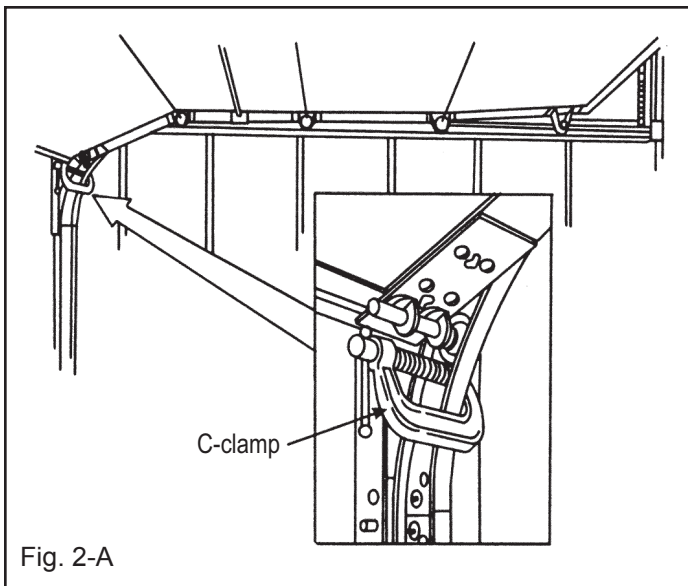

Fig. 2-A
Raise door to full open position. Place C-clamps or locking pliers tightly on both sides of track under door so door is held securely in place (Fig. 2-A). With door fully open, most spring tension has been removed. Keeping C-clamps in place to keep door from falling, detach cable at both ends. Disassemble and remove springs and cable completely from door.
**Step 1: Door Frame.** On the inside of your opening should be framed with wood jambs, 2" x 6" [51 mm x 152 mm] if possible or with steel channel. The side jambs should extend to approximately the same height as the headroom required. If you have just removed an old door, the condition of the jambs should be inspected. If the jamb has deteriorated, it should be replaced now. The jambs should be plumb and the header level. If there are any bolts fastening the jambs to the wall the heads should be flush so they don't interfere with the installation of your new door (Fig. 1-J). Typical installation for wood, steel or masonry jamb material is shown in Fig. 2-J.